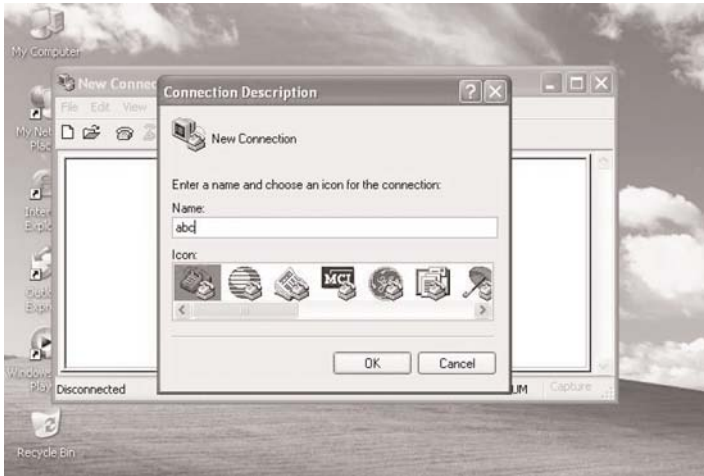

Figure 3-7. Connecting to HyperTerminal.
3. If you've never set up your HyperTerminal before, it will ask you to enter your phone area code. Enter this, then click on **OK**. The screen shown in Figure 3-7 appears.